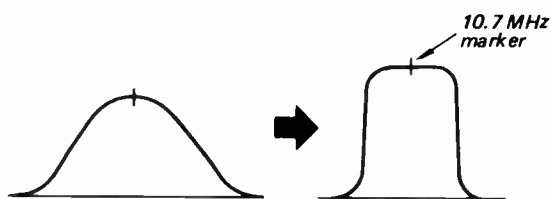

Fig. 3-6.
2. Turn the core of fm i-f transformer (IFT F101, F201, F202) and discriminator transformer (IFT F203) to obtain the maximum amplitude response curve shown in Fig. 3-6.